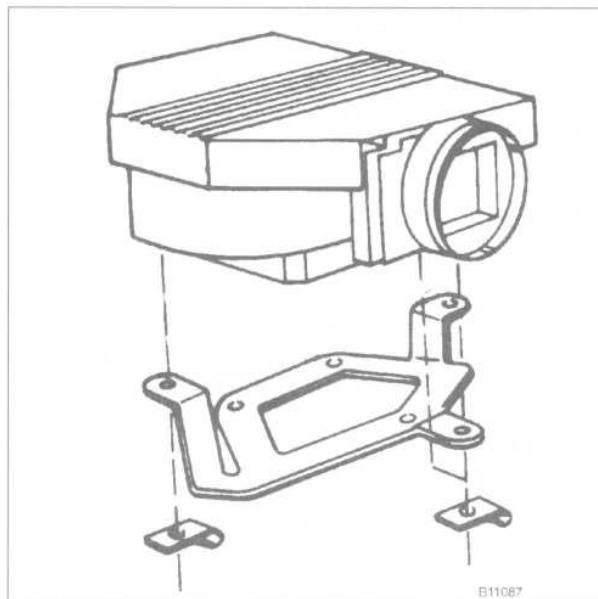

Fig. 28. Air flow sensor retaining clips on M30 engine.
2. Working underneath the air flow sensor, remove sensor retaining clips and lift the sensor off its mounts. See Fig. 28.